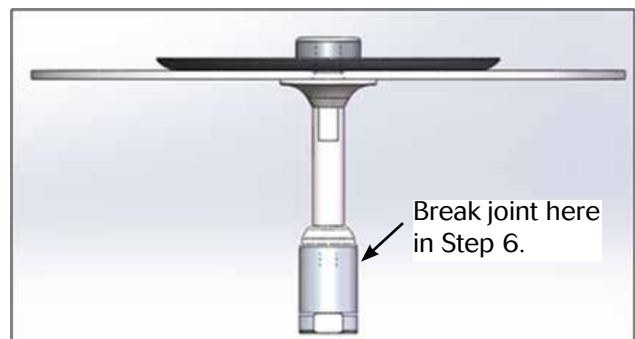

Figure 1: Diaphragm/Seat Assembly
3. Refer to assembly with bill of materials for basic regulator and Figure 1 for diaphragm/trim subassembly
1. Remove knob assembly (9) completely from the spring housing (7).
2. Clamp the valve in a vise, upside down, securing on the spring housing (7) flats.
3. Remove bottom cap (10) by turning CCW and remove return spring (13).
4. Turn valve over and clamp the valve back in the vise, securing on the main body (15) flats.
5. Remove spring housing (7) and upper diaphragm casing (2) by removing 8-HHCS 5/16-18 x 3/4" (16) from perimeter of upper diaphragm casing (2). Remove spring guide (6) and spring (14).
6. Using soft jaw pliers on the upper diaphragm plate (4) and a flat screw driver inserted into the slot of the seat guide (12) disassemble the diaphragm/seat assembly in Fig. 1 at the LDP tied stem (1) and the seat guide (12) as indicated by the arrow.
4. Turn the valve right side up and clamp the valve back in the vise, securing on the body subassembly (15) flats.
7. Remove seat guide (12) and seat (11) from body subassembly (15).
8. Remove upper diaphragm plate (4), diaphragm (3), and LDP tied stem (1) from the body subassembly (15).
9. Using soft jaw pliers on the upper diaphragm plate (4) or by holding it with a vise and using a box wrench on the flats of the LDP tied stem (1) loosen and remove the diaphragm.
10. Remove bottom cap gasket (5) and clean all parts to be reused according to owner's procedures.
12. Reassemble the upper diaphragm plate (4), the new diaphragm (3), and the LDP tied stem (1). Tighten the assembly until the diaphragm just starts to deform by holding the upper diaphragm plate (4) with soft jaw pliers or a vise and threading the LDP tied stem (1) into the upper diaphragm plate (4).
13. Place the assembly from step 12 into the top of the body subassembly (15) with the lower diaphragm plate/seat tip LDP tied stem (1) passing through the orifice of the body.
14. Place seat guide (12) and seat (11) back into main body (15) cavity. Thread the seat guide (12) onto the LDP tied stem (1) and tighten.
15. Place new bottom cap gasket (5) into bottom of threaded body chamber.
16. Place return spring (13) into the body against diaphragm/seat assembly bottom.